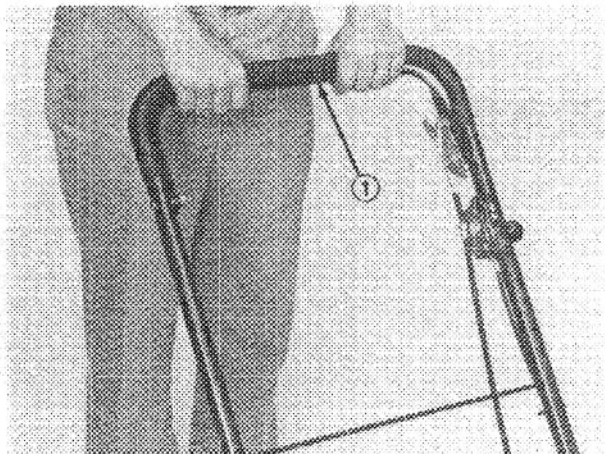
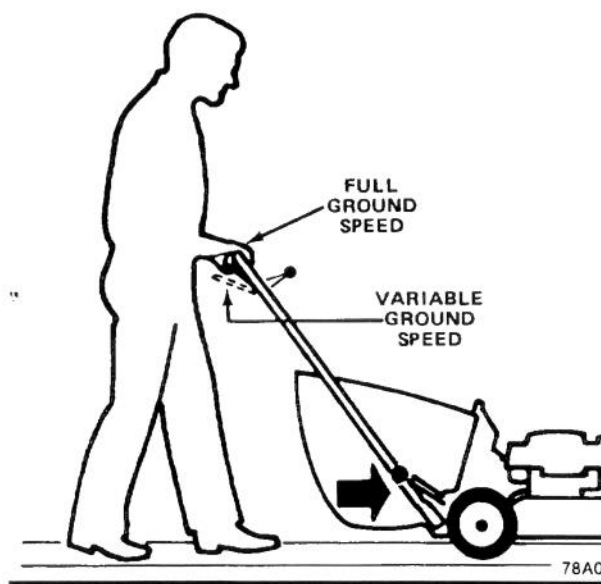

Figure 11
Figure 12
2. Stand behind the handle in the operating position. Squeeze the traction control handle to achieve traction operation (Fig. 11). Mower can be operated at variable speed in any gear by squeezing traction control handle partially (Fig. 12). Mower ground speed, dependent upon speed allowed by gear selection, will increase as traction handle is squeezed. To stop traction operation, release the traction control handle allowing it to return to the DISENGAGE position. To move mower in reverse direction, release traction control and pull back on the upper handle.
3. If operating on rough turf areas, shift the ground speed control lever to a lower setting (Fig. 12) and operate the traction control at the full up position (Fig. 12). At this slower ground speed the mower will follow ground contours, preventing excessive mower bouncing and providing a more acceptable turf appearance.